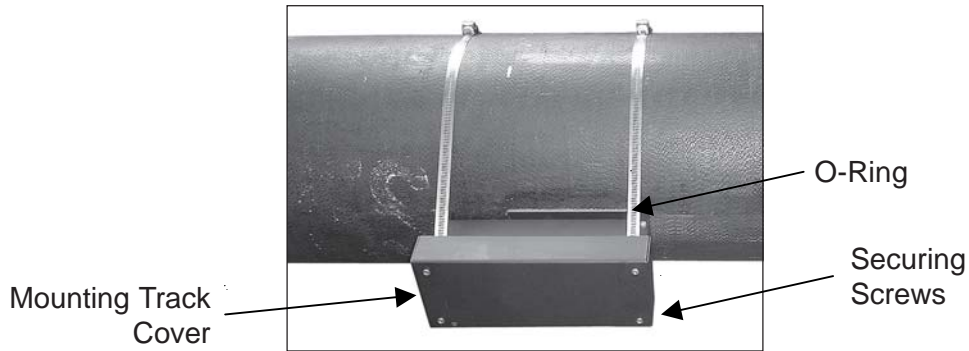

Figure 5
- Seat O-Ring gasket to the pipe by pushing it off the corners of the transducer (Figure 5).